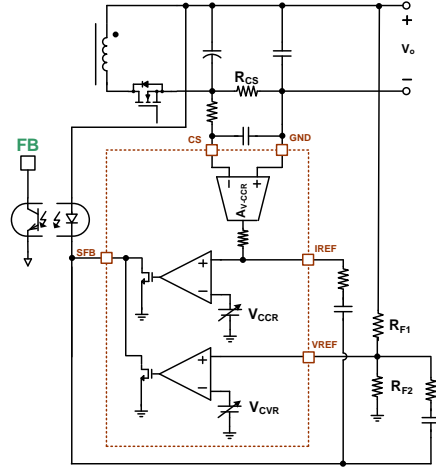

Figure 18 Constant Voltage and Constant Current Circuit
The internal constant voltage control block regulates adaptive output voltages. Output voltage is sensed through an external resistor divider. The sensed output voltage is connected to the VREF which is the non-inverting input terminal of the internal operational amplifier. The inverting input terminal is connected to the internal voltage reference ( $V_{CVR}$ ) which can be adjusted according to the requested output voltage via Quick Charge 3.0 protocol. The amplifier and an internal switch operate as a shunt regulator. The output of the shunt regulator is connected to the external opto-coupler, and this pin is named as Secondary Feedback (SFB). To compensate output voltage regulation being stable, one capacitor and one resistor are connected typically between the SFB and VREF pins as shown in Figure 18. The output voltage can be derived as shown in equation (1) and the recommended ratio of the resistor divider is 5.
In order to support adaptive constant output current, FAN6290Q incorporates the constant-current control circuit internally. Output current is sensed via a current-sense resistor,  $R_{CS}$ , which is connected between the CS pin and GND pin. The sensed signal is internally amplified, and this amplified voltage is connected to the non-inverting input of the internal operation amplifier. Likewise the constant voltage amplifier circuit, it also plays a role as a shunt regulator to regulate the constant output current. In order to compensate output current regulation, one capacitor and one resistor are connected between IREF and SFB pins typically as the Figure 18. The constant output current is decided by the equation (2). 30 mΩ is typically used for the sense resistor.
Since CS pin senses small amounts of voltage, the sensing resistor should be positioned as close as possible to CS pin. Shown in Figure 18, an RC low pass filter can be added on the CS pin to be immunized from noise.